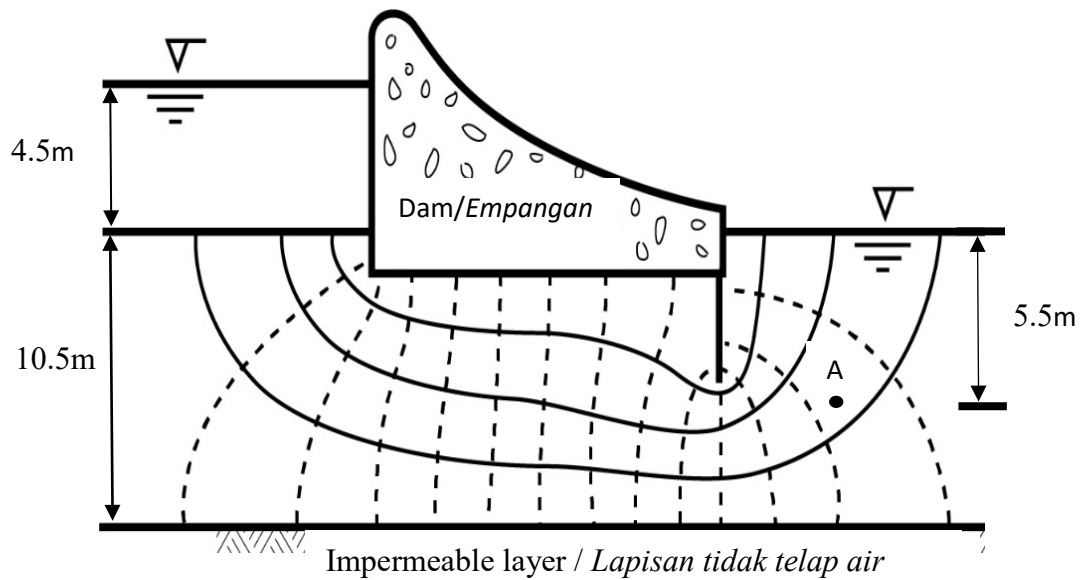

Figure B4(a) / Rajah B4(a)
- (a) Figure B4(a) below shows a flow net of a concrete dam. Given the coefficient of permeability of the soil is  $2.4 \times 10^{-2}$  cm/s. Calculate the quantity of seepage,  $q$  in unit  $\text{m}^3/\text{hour}/\text{meter length}$  and the pore water pressure at point A.